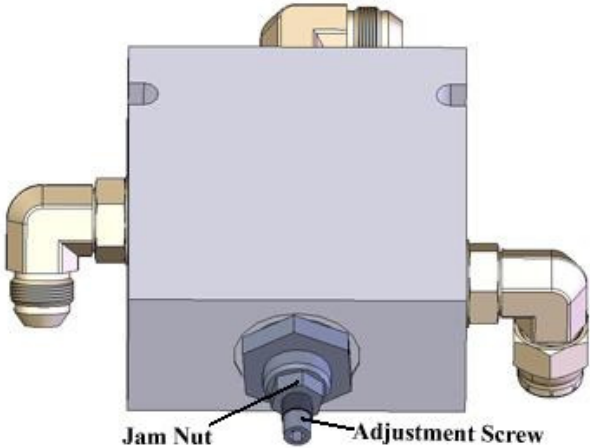

Figure 23: Flow Control - FV Option
6. Loosen the jam nut and use the hex Allen wrench to turn the adjustment screw (Fig. 23); **counterclockwise to increase** and **clockwise to decrease** the frequency.
7. Turn the adjustment screw in (CW) to reduce the frequency below set point; then slowly turn the adjustment screw out (CCW) to 1HZ above the set point; then slowly turn the adjustment screw in (CW) to set point. **DO NOT** exceed 63HZ when making the adjustment.